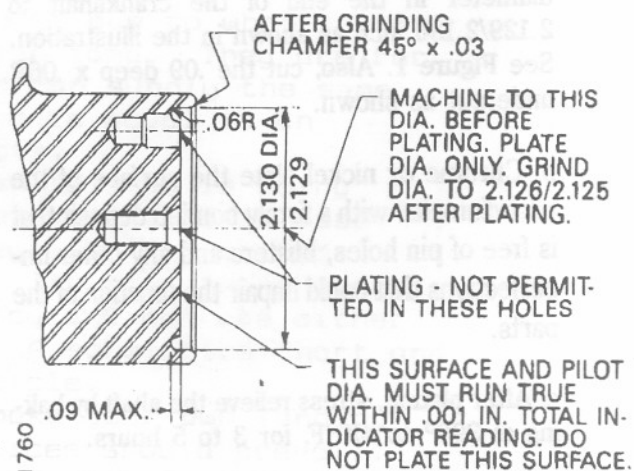

Figure 1. Details for Repairing Pilot Diameter of Crankshaft
a. After removing the dowel, machine the pilot diameter in the end of the crankshaft to 2.129/2.130 inch as shown in the illustration. See Figure 1. Also, cut the .09 deep x .06R undercut as shown.
e. Chamfer edge of pilot diameter 45° x .03 as shown in Figure 1.